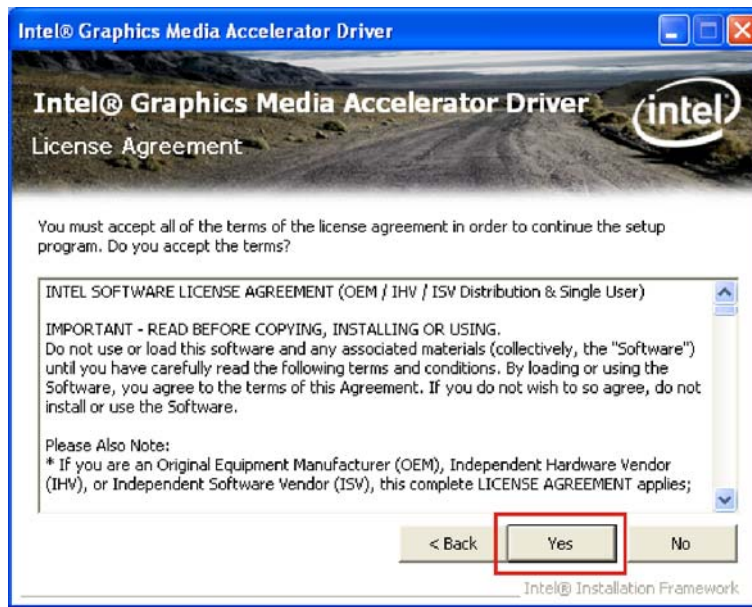

Figure 7-9: VGA Driver License Agreement
Step 23: The license agreement in Figure 7-9 appears.